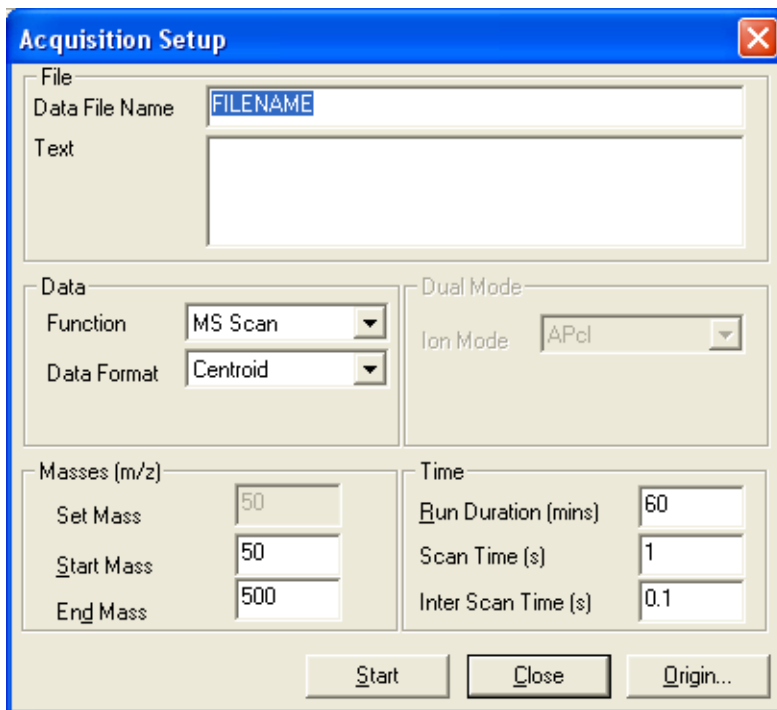

Figure 5-1 Acquisition Setup Dialog Box
1. In the Tune window, click **Acquire**, or select **Window > Acquire** to open the Acquisition Setup dialog box (Figure 5-1).